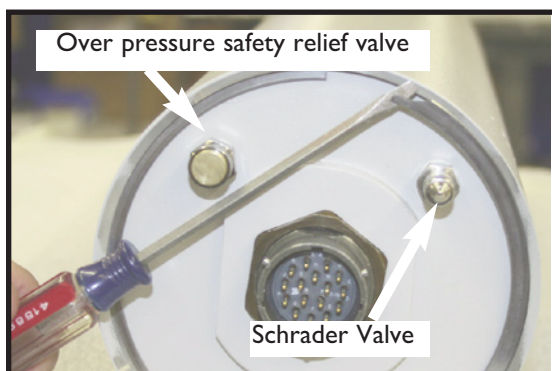

FIGURE 3 Rear Cap View
1. Release all gas pressure from the housing by using the Schrader valve located on the back of the housing. See **Figure 3** for location of the Schrader Valve.